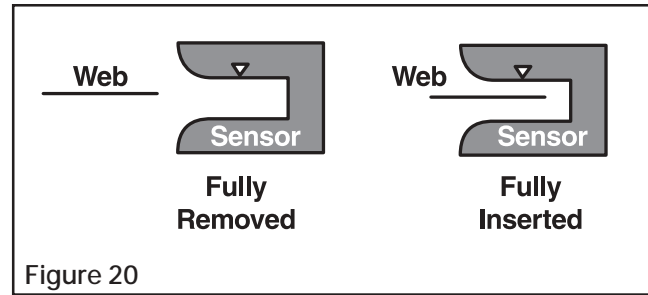

Figure 20
2. Cover the sensor window completely with an opaque material (See Figure 20).